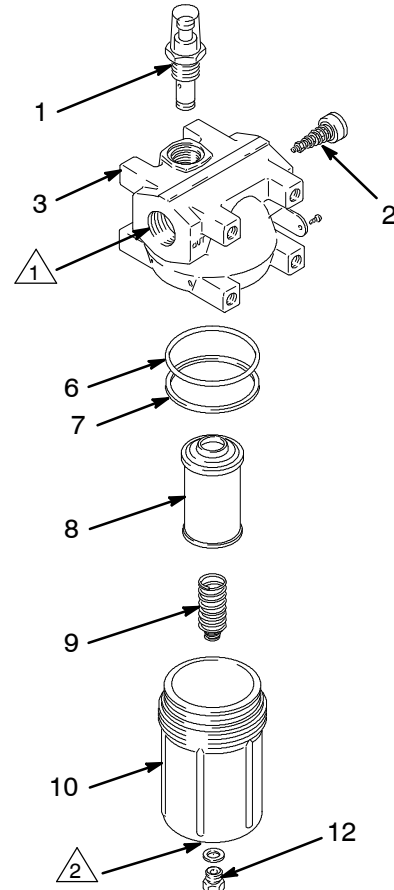

Fig. 3
Replace the indicator assembly (1) if the indicator is not working correctly (it is always red or never red). See Fig. 3.